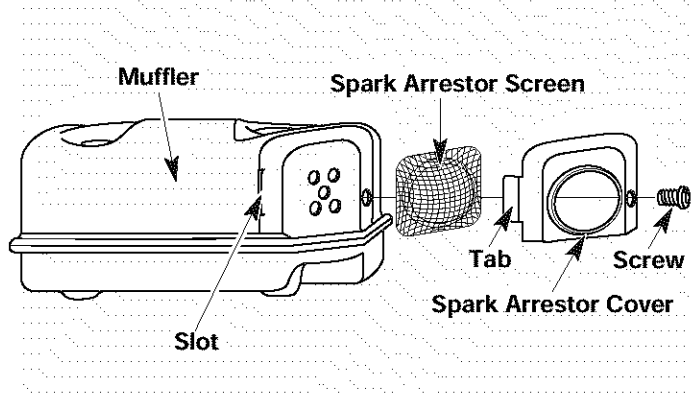

Fig. 43
2. With a flat blade screwdriver or Torx T-20 bit, remove the screw attaching the spark arrestor cover to the muffler (Fig. 43).